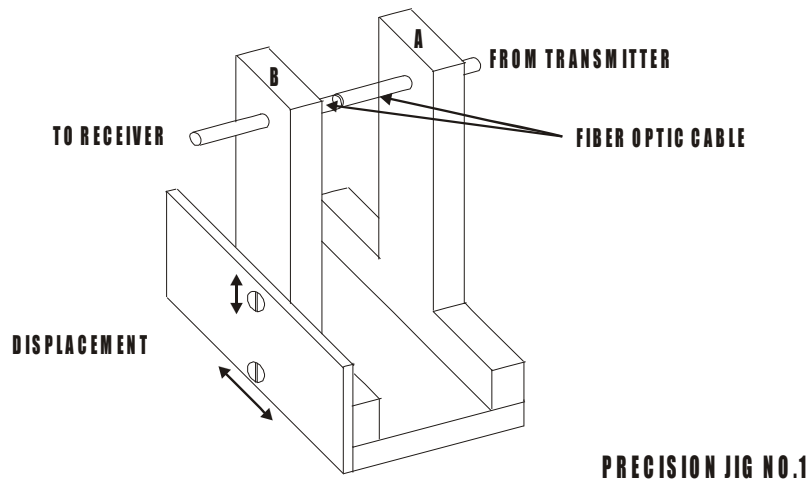

FIG.8.2 LATERAL DISPLACEMENT
- Check that vertical and horizontal alignment is proper as shown in fig. 8.2.